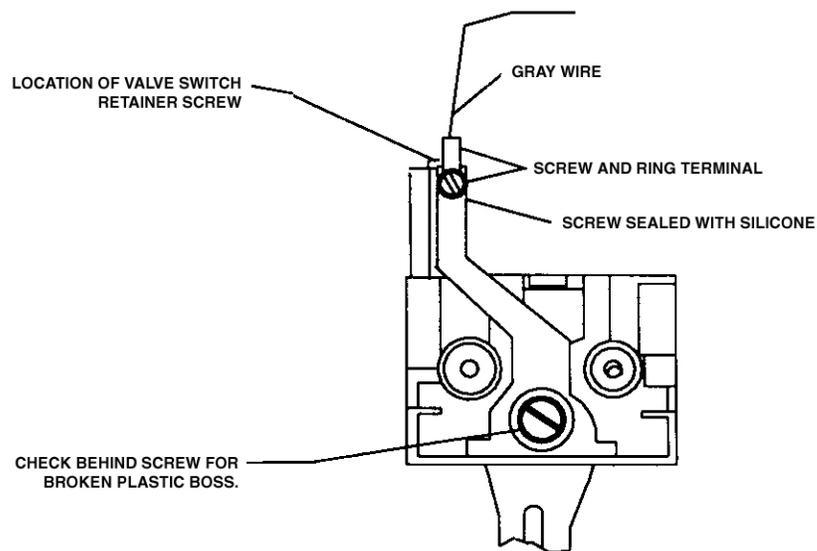

Figure 3 FFV Valve Rear View
7. Remove lever switch by removing the screw holding it to the valve body. (Refer to Figure 3) Remove screw and the ring terminal attached to the gray wire from lever. (Refer to Figure 3)
8. Remove the connectors with the orange and white wires from the pink valve coil and the connector with the red and white wires from the red valve coil. (Refer to Figure 3)